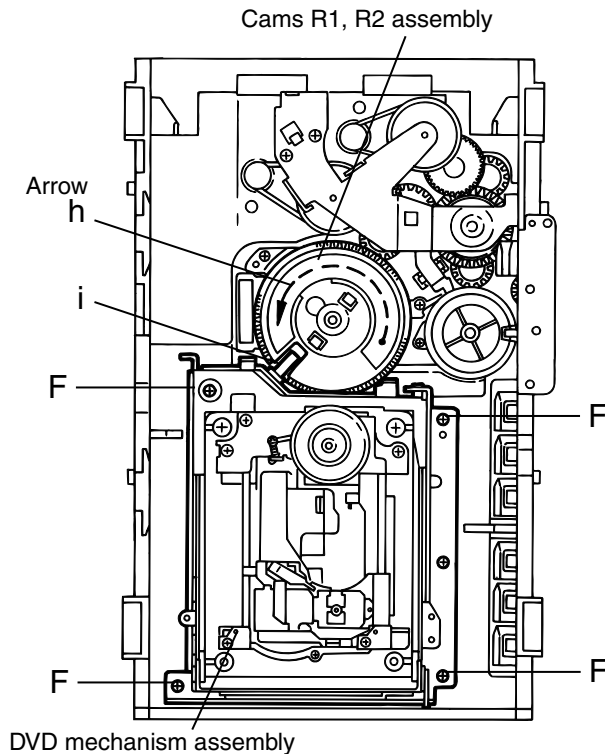

Fig.10
**■ Removing the DVD mechanism assembly(See Fig.10)**
1. While turning the cams R1 and R2 assembly in the arrow direction **h** , align the shaft **i** of the DVD mechanism assembly to the position shown in Fig.10.